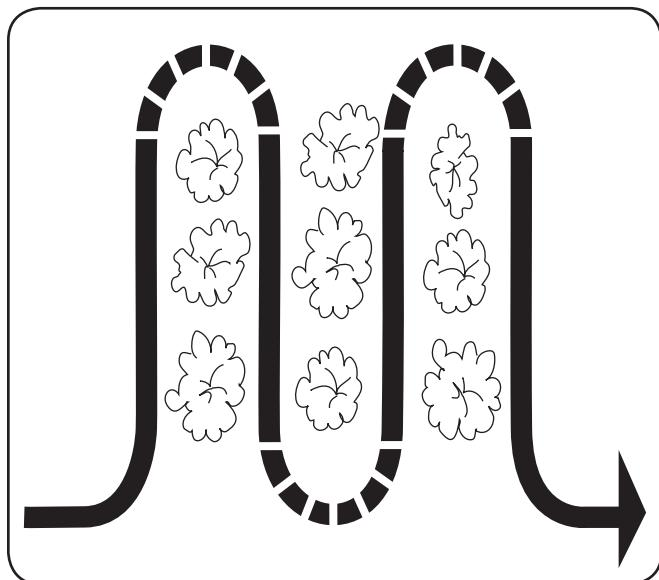

Figure 5-4
- When cultivating (breaking up the surface soil around the plants to destroy weeds, see Figure 5-4), adjust the tines to dig only 1" to 2" deep. Using the shallow tilling depth helps prevent injury to the plants whose roots often grow close to the surface. If needed, lift up on the handlebars slightly to prevent the tines from digging too deeply. (Cultivating on a regular basis not only eliminates weeds, it also loosens and aerates the soil for better moisture absorption and faster plant growth.) Watering the garden area a few days prior to tilling will make tilling easier, as will letting the newly worked soil set for a day or two before making a final, deep tilling pass.